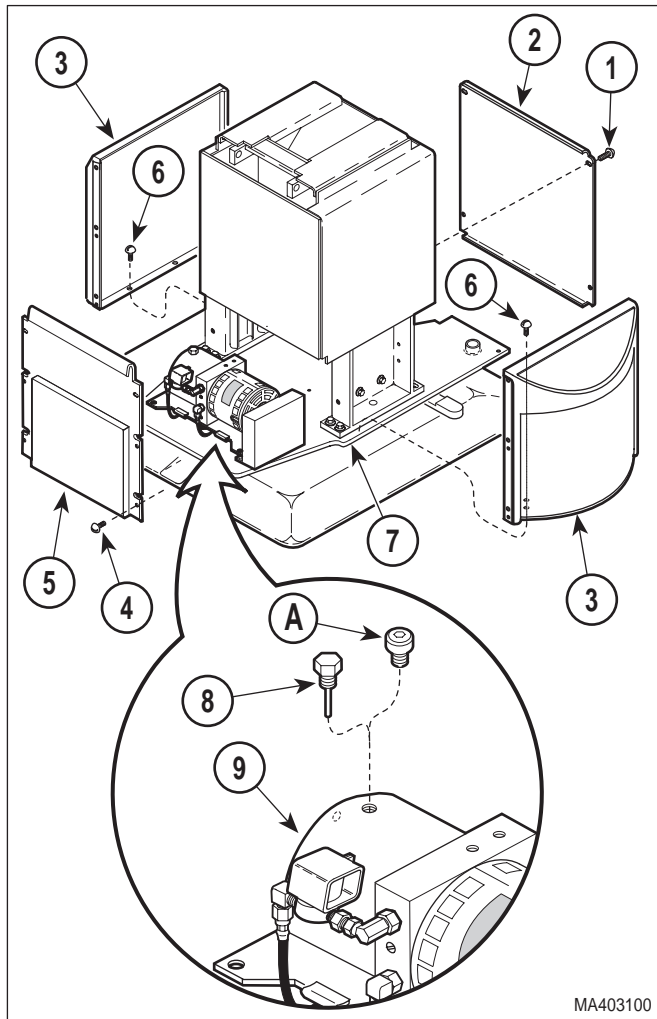
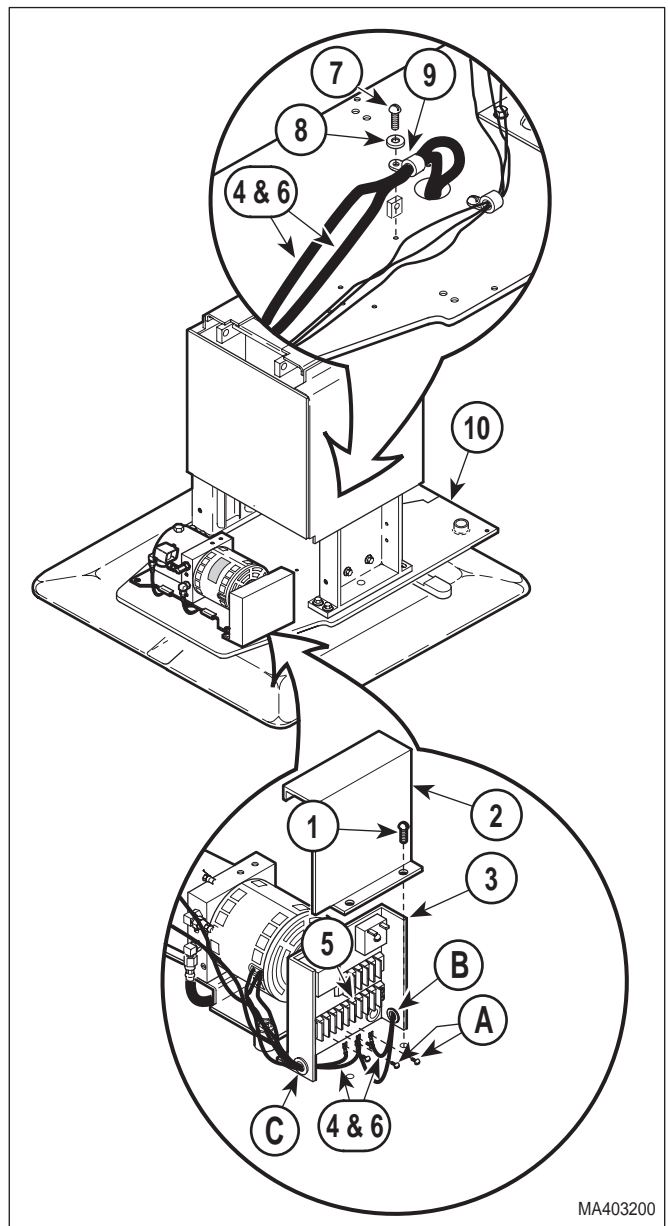

Figure 4-36. Shrouds Removal / Installation
Figure 4-37. Wires Disconnection / Connection
(4) Remove four screws (1, Figure 4-36) and front outer shroud (2) from left and right hand outer shrouds (3).
(5) Remove four screws (4) and back outer shroud (5) from left and right hand outer shrouds (3).
(6) Remove six screws (6) and left and right hand outer shrouds (3) from platform base weldment (7).
(7) Remove brake (Refer to para 4.29).
(8) Remove filler cap (8) from motor pump (9).
(9) Install plug (provided in bearing replacement kit) on motor pump (9).
(10) Remove two screws (1, Figure 4-37) and control cover (2) from control panel (3).
- (14) With help of an assistant, raise table to its upright position.
- (15) Connect eight wires (6, Figure 4-37) to terminal block (5) and secure by tightening eight terminal screws.
- (16) Connect three wires (4) to terminal block (5) and secure by tightening three terminal screws.
- (17) Secure wires (4 and 6) to platform base weldment (10) with cable clamp (9), washer (8), and screw (7).
- (18) Install any cable ties which were removed during removal.
- (19) Install control cover (2) on control panel (3) and secure with two screws (1).
- (20) Remove plug from motor pump (9, Figure 4-36).
- (21) Install filler cap (8) in motor pump (9).
- (22) Install brake (Refer to para 4.30).
- (23) Adjust brake (Refer to para 4.29).
- (24) Install left and right hand outer shrouds (3, Figure 4-36) on platform base weldment (7) and secure with six screws (6).
- (25) Install back outer shroud (5) on left and right hand outer shrouds (3) and secure with four screws (4).
- (26) Install front outer shroud (2) on left and right hand outer shrouds (3) and secure with four screws (1).
- (27) Install motor cover assembly (Refer to para 4.2).